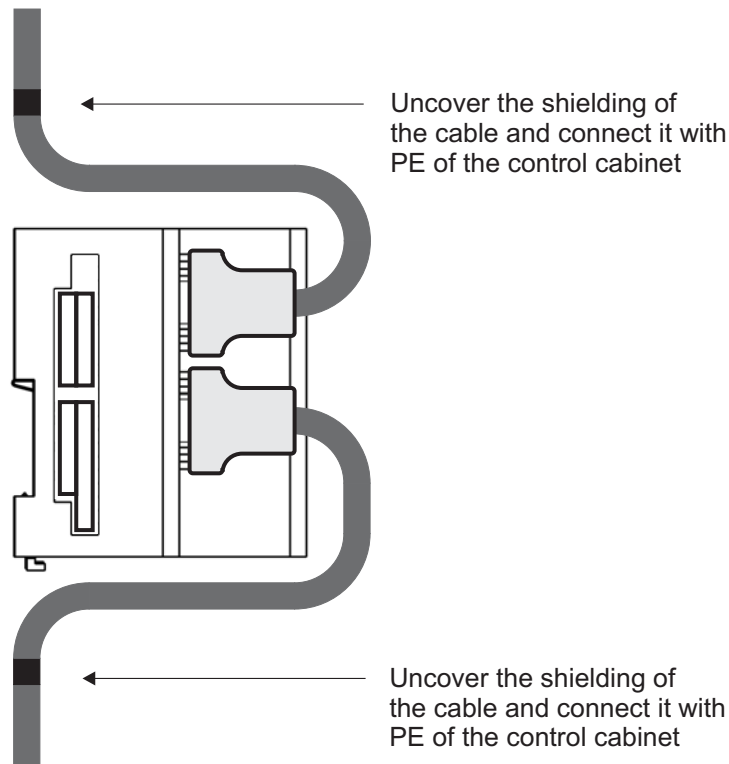

Figure 14: Cable routing
- ▶ Route the connection lines according to the specifications in ▶Figure 14◀. The cable shielding must be laid open first. The length of the exposed shielding should correspond to the width of the fastening clamp. The cable is fastened with the clamp in such a manner as to create a connection between the cable shielding and the PE of the electrical cabinet.